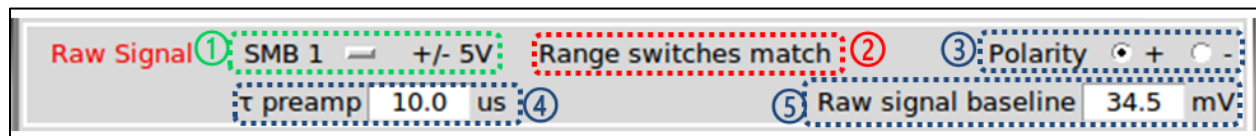

Figure 15: the raw signal parameters.
In this module, the user has to describe the raw signal (cf. Figure 15). That means its link with one of the four daughter board input channel ①, its polarity ③, its decay time constant ④, its baseline level ⑤.